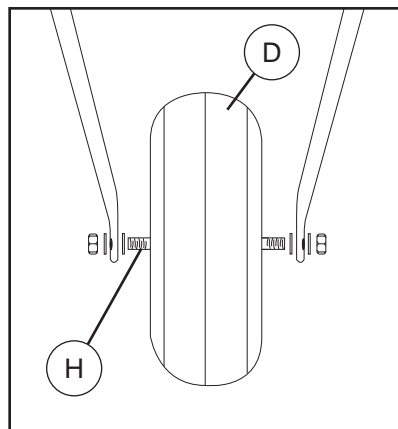

Figure 4
5. Insert the axle (H) into the wheel and fit a washer over both ends of the axle. Locate the wheel between the forks of the leg sections and slide each end of the axle through the holes in the forks (Fig. 4). Slide a washer over each end of the axle and screw on the nylon nuts. Carefully tighten the nuts using an adjustable wrench so that the wheel can still move freely. **DO NOT OVER TIGHTEN.**